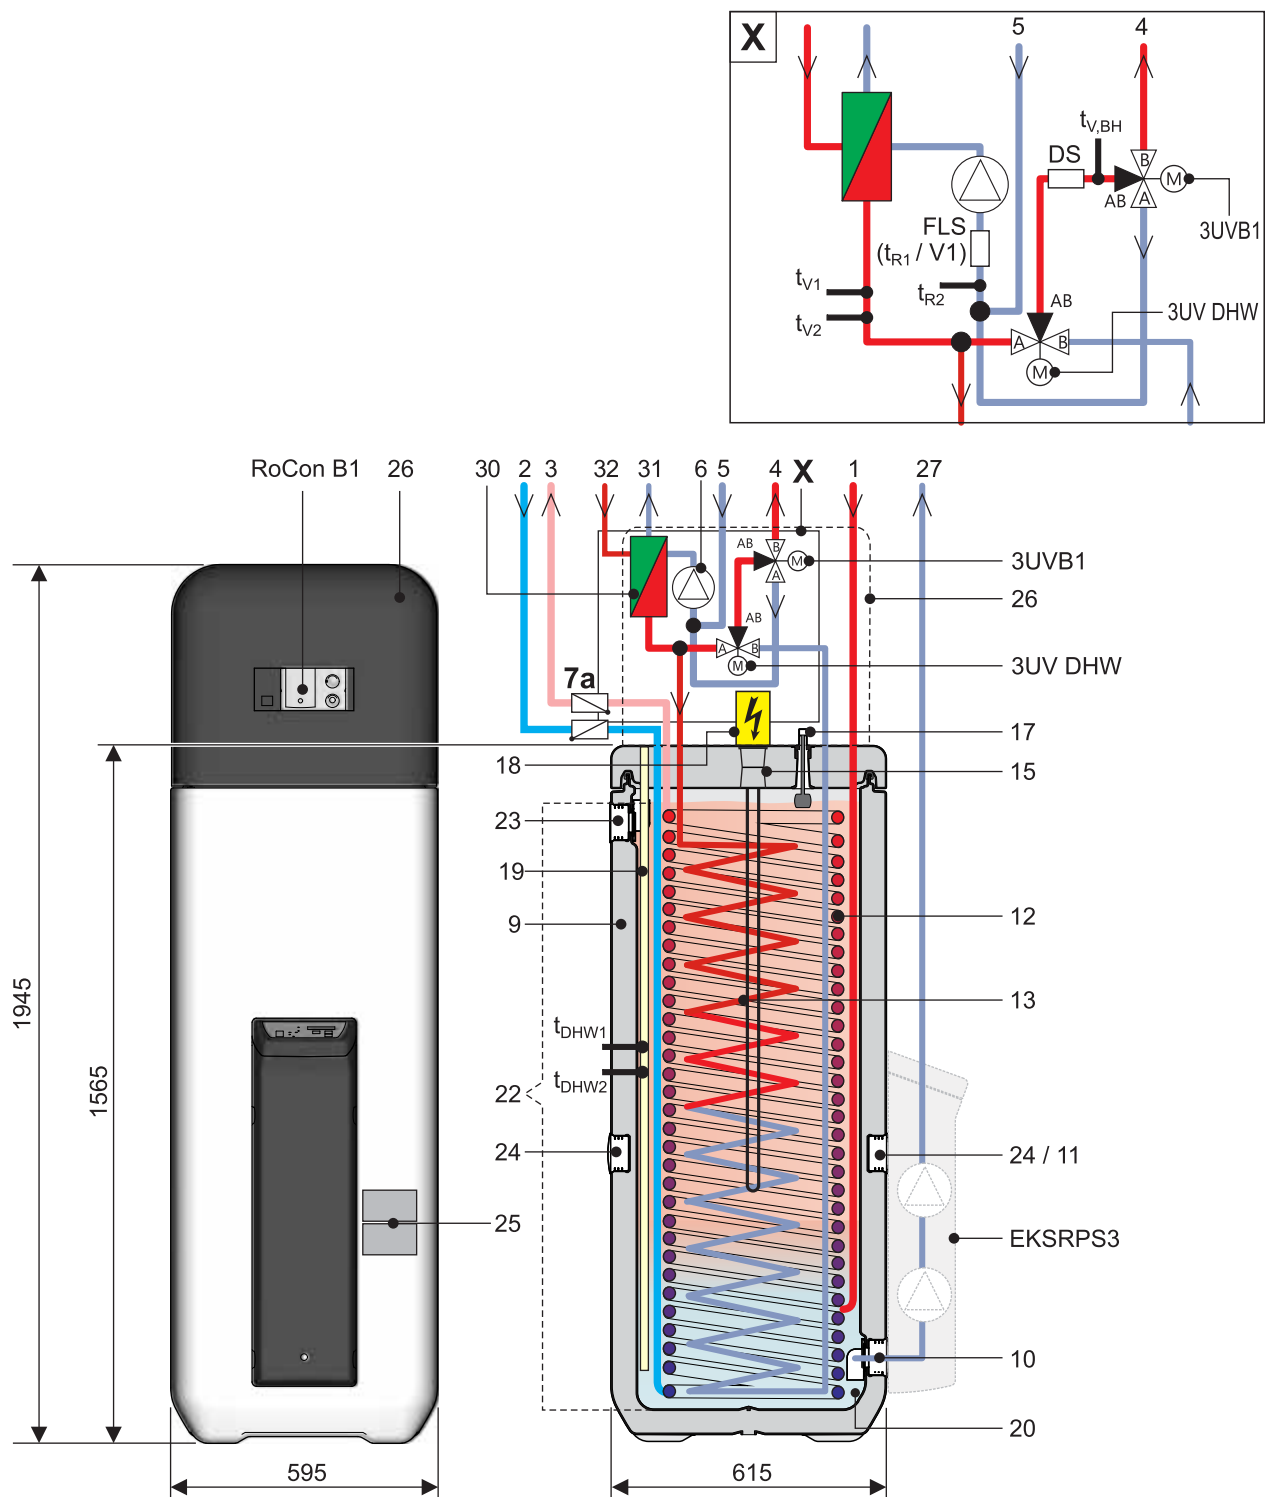
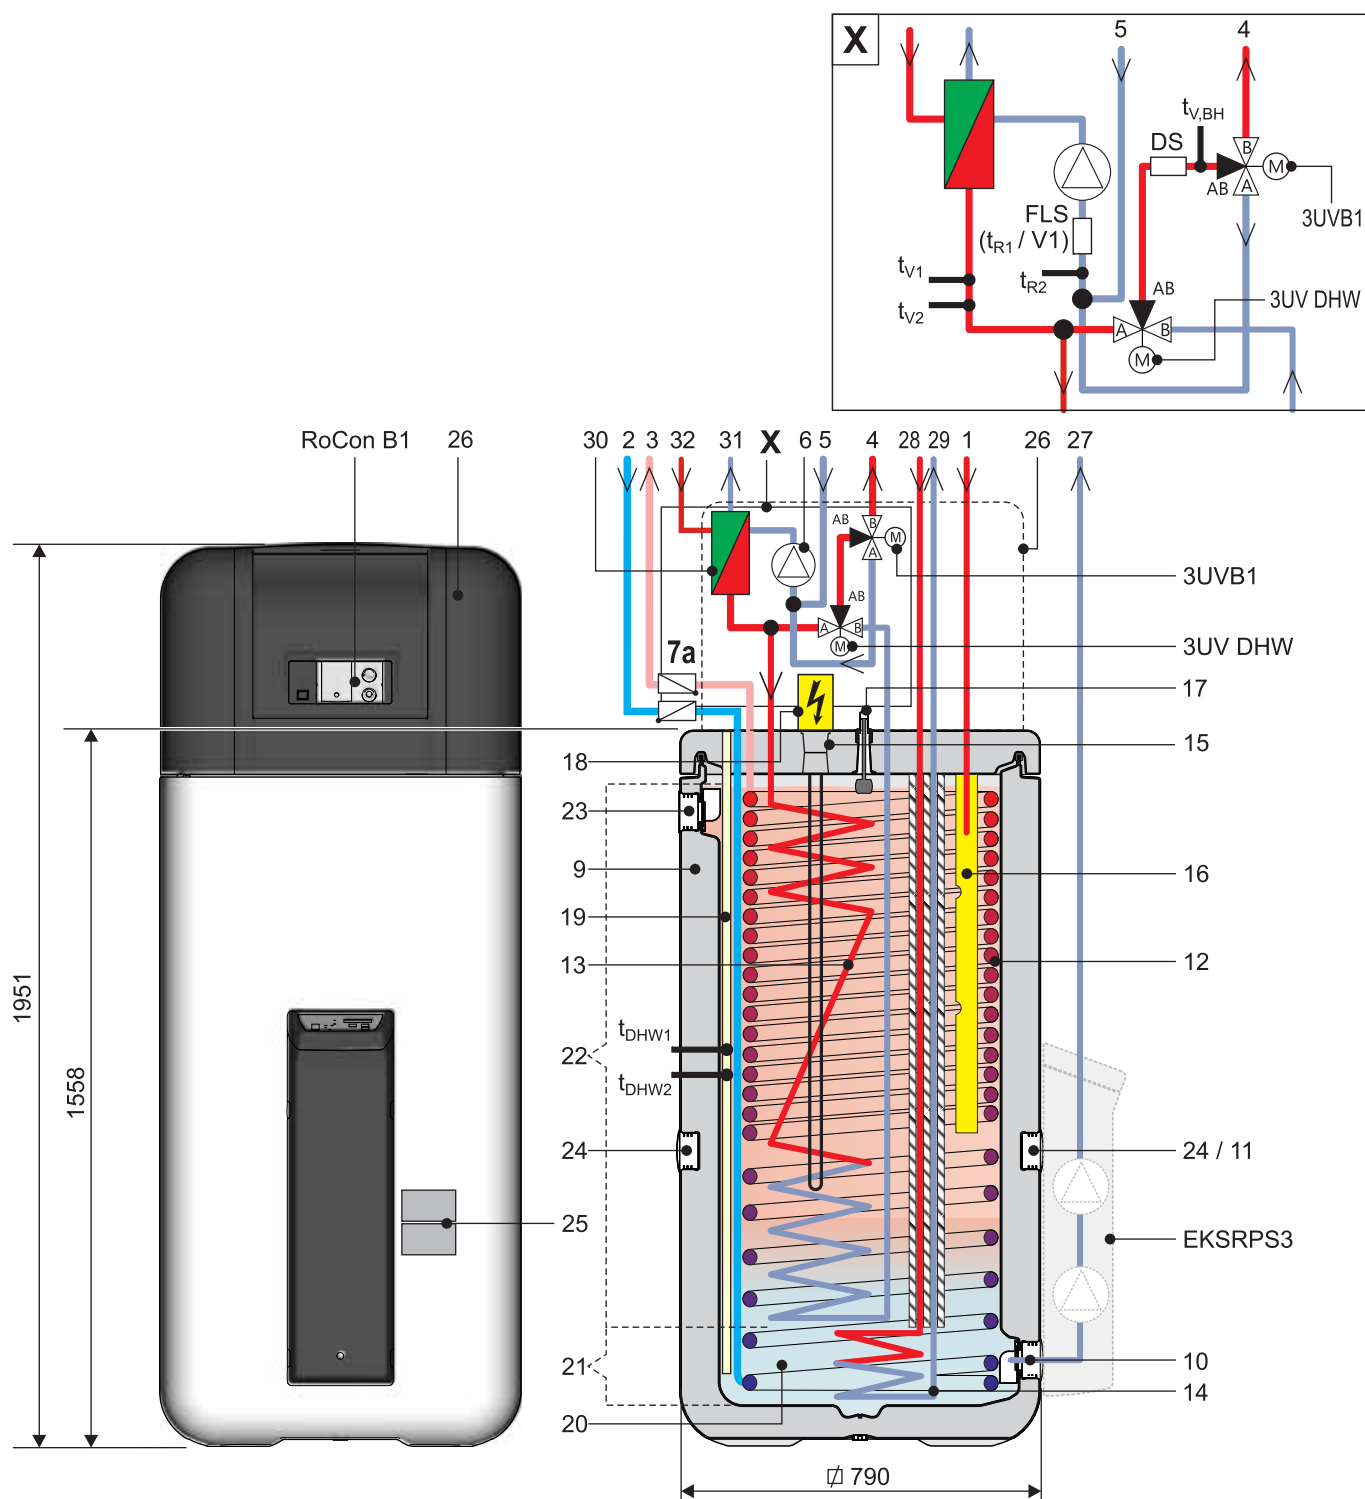

Fig. 2-2 Design and components of the Daikin Altherma EHS(X/H)...P30A (external view and internal design)
Fig. 2-5 Design and components of the Daikin Altherma EHS(X/H)B...P50A (external view and internal design)
Tab. 2 -1 Legend from fig 2-2 to fig 2-5
- Remove the cover plates on the storage tank (figure 3-4, item B) and unscrew the threaded pieces (figure 3-4, item F) from the apertures on which the handles are to be mounted (figure 2-2 to figure 2-5, item 24).